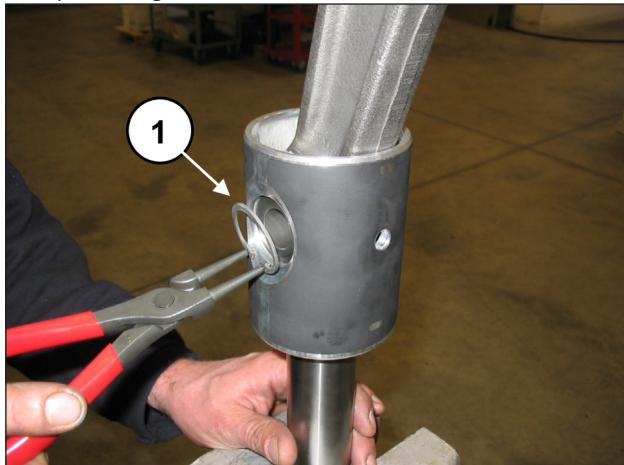

Fig. 43
Remove the two spindle locking Seeger rings using a special tool (pos. ①, Fig. 43).
Insert the con-rod in the piston guide (pos. ①, Fig. 45) and then insert the spindle (pos. ①, Fig. 44). Fit on the two Seeger rings with the special tool (pos. ①, Fig. 43).